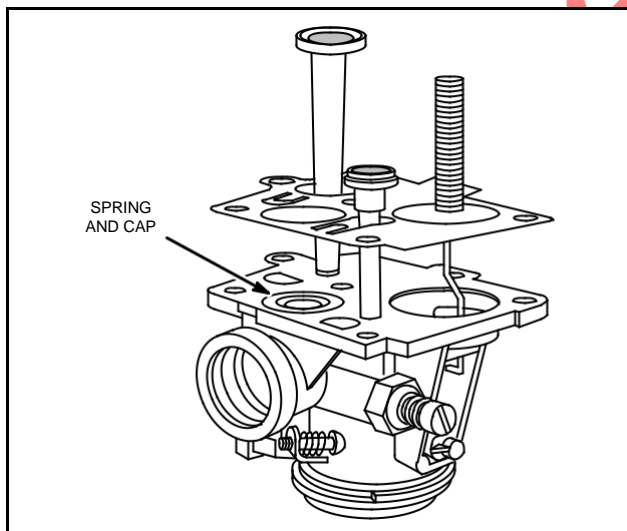

Fig. 242 - LOCATING DIAPHRAGM ON CARBURETOR
1. Holding carburetor body upside down, place diaphragm on body while guiding choke link thru hole for link. Be sure that pump spring and cap in fuel pump well, Fig. 242.